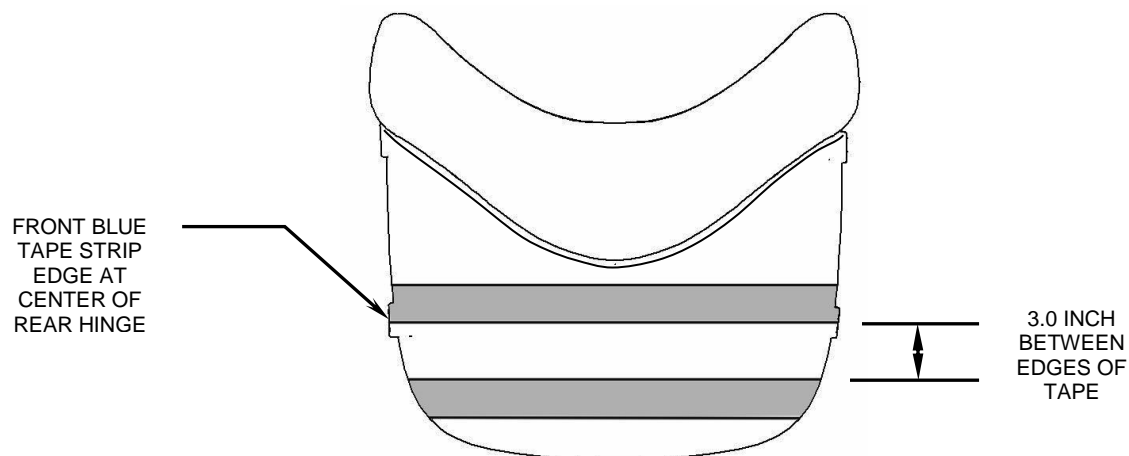

FIGURE 1
1. Place masking tape on trunk to prepare for hole drilling to mount the luggage rack, review Figure 1 for tape locations. 2.0 inch wide blue tape should be used.